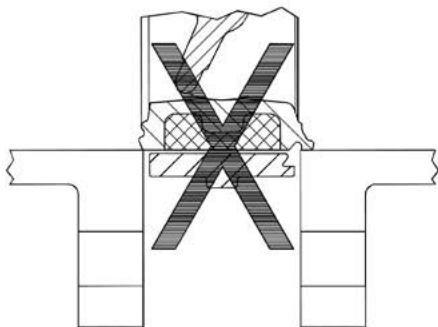

fig. 1
- Never try to force the valve into flanges that are not far enough apart to allow free passage; the sealing areas on the flanges can become irreparably damaged (fig. 1).